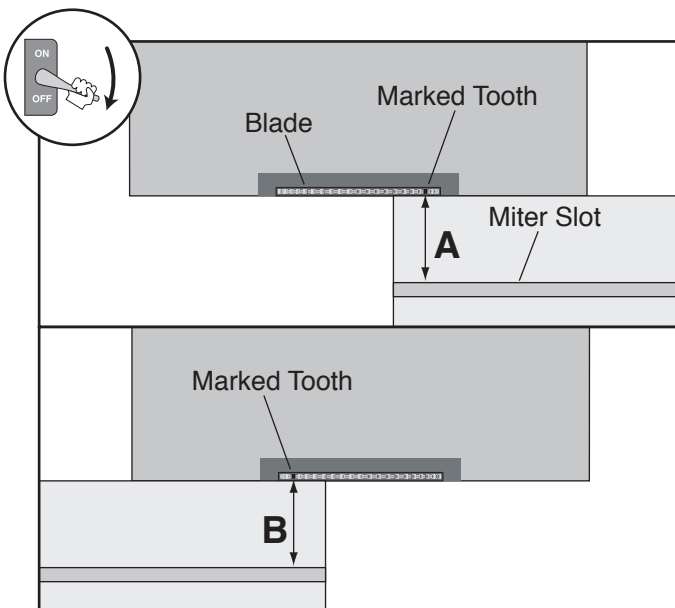

Figure 157. Measuring distance between miter slot and blade at each end of sliding table.
4. Move sliding table all the way forward, and measure distance **A** shown in **Figure 157**, which is between marked blade tooth and edge of sliding table miter slot.
5. Rotate blade 180°, move sliding table all the way back, then measure distance **B** shown in **Figure 157**.